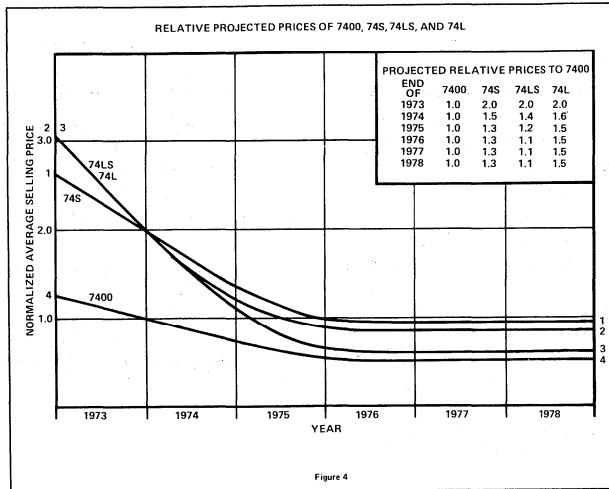

Figure 4
Although standard TTL is the lowest priced logic available today, and probably will be for some time to come, Signetics Low Power Schottky is the *most cost effective* form of logic to design your system with. Low Power Schottky prices are rapidly approaching 7400 as shown by Figure 4. Over the production life of your system, Low Power Schottky will result in the lowest overall manufacturing cost. If you are presently using low power TTL in your design you can affect an immediate cost reduction by replacing it with Low Power Schottky. Similarly, before designing a system with CMOS for lowest power supply costs, compare prices with Low Power Schottky. The difference in price may well offset the power supply savings. You also don't have the easy upgradability with CMOS.
1. Cost reduction — 54/74LS is less expensive than 54/74L. The cost difference will become even more significant in the future. (See Figure 4).